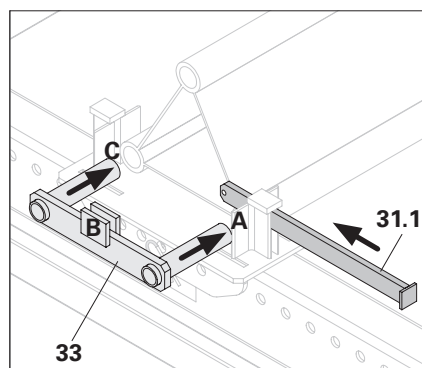

Fig. A9.02a
6. On the last aluminium rail, push the two pins of the rail end piece (**33**) into the two lower holes of the profile tube. (Fig. A9.02a)
7. Firstly, push the holder (**31.2**) through the guide of the rail support – at A – then between the brackets of the end piece – at B – and again through the guide of the rail support – at C. (Fig. A9.02a)